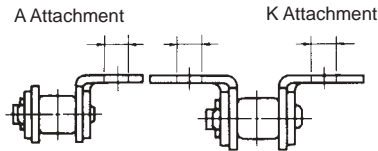

Figure 2.28 Changing the Hole Diameter in A or K Attachments
- (1) Hole diameter in an A or K attachment or the length of the pin in a D attachment (Figures 2.28 and 2.29).